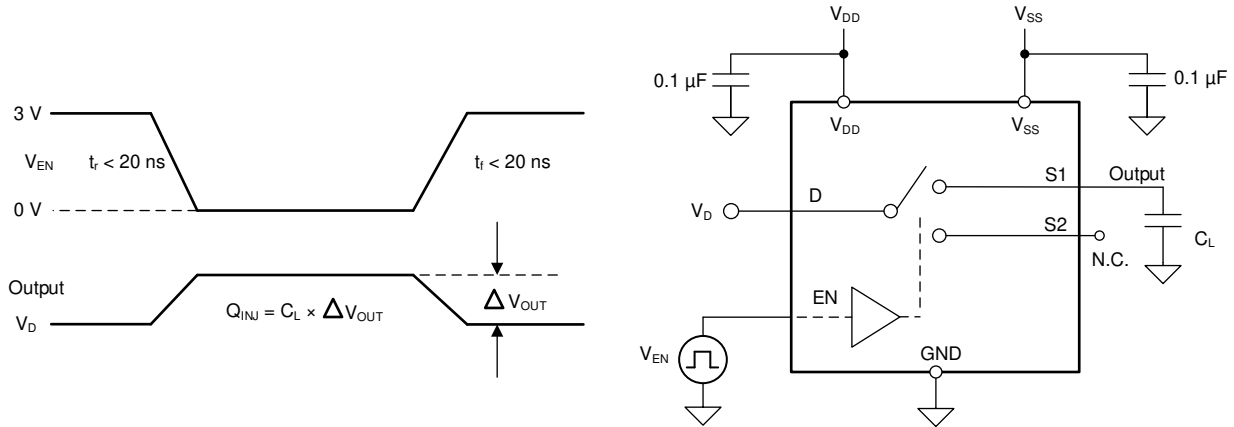

Figure 7-9. Charge-Injection Measurement Setup
The TMUX6219 has a transmission-gate topology. Any mismatch in capacitance between the NMOS and PMOS transistors results in a charge injected into the drain or source during the falling or rising edge of the gate signal. The amount of charge injected into the source or drain of the device is known as charge injection, and is denoted by the symbol Q_C . Figure 7-9 shows the setup used to measure charge injection from source (Sx) to drain (D).